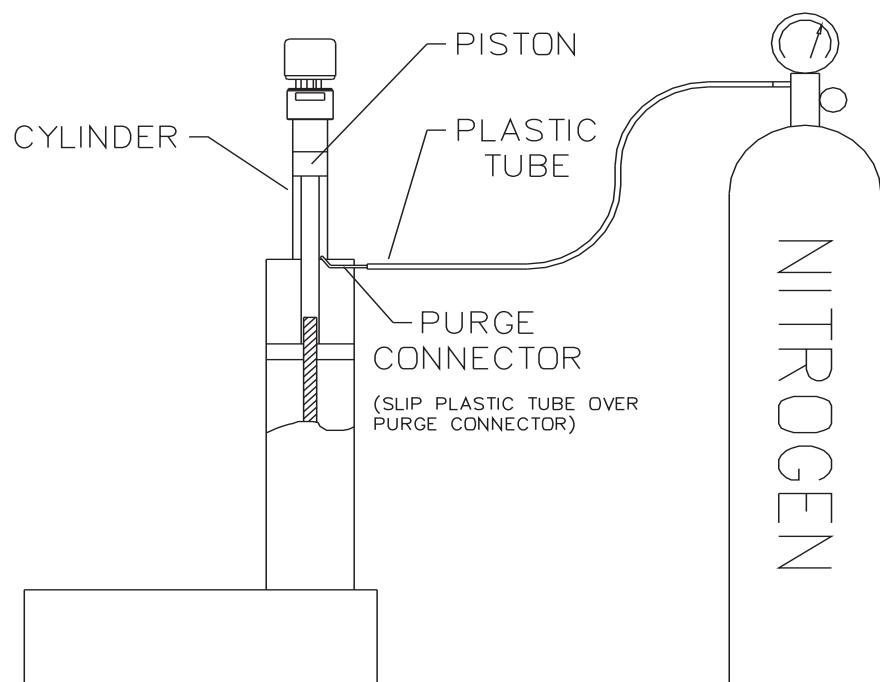

Figure 2B-6 Purge connector installation
1. Attach gas supply by slipping the plastic tube over the purge connector, see Figure 2B-6.